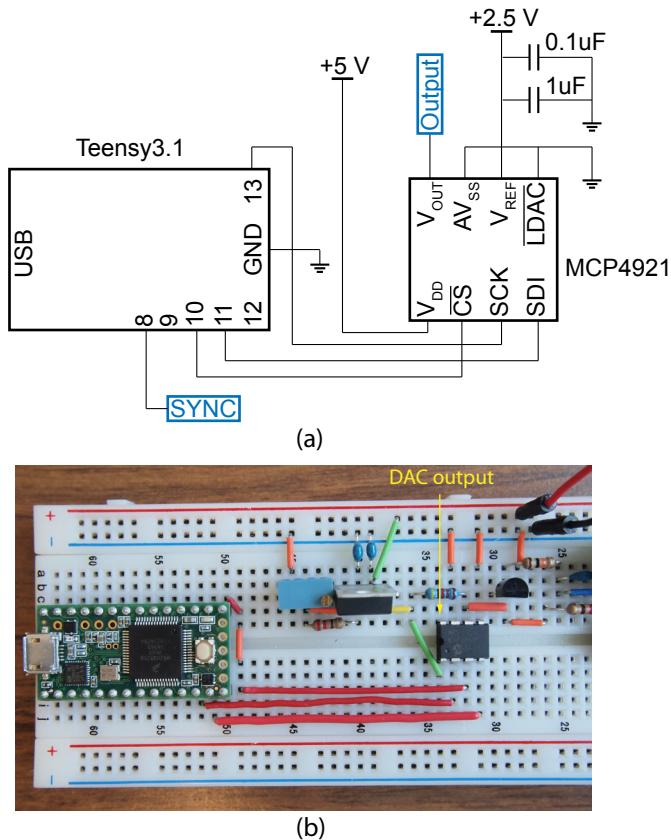

Figure 13: Schematic of the connection between the Teensy 3.1 and the MCP4921.
1. Using Fig. 13-a as a reference, connect the Teensy to the MCP4921 DAC. Connect the MCP4921's VDD pin to the output of the LM317 regulator (5 V). Connect the MCP4921's VREF pin to the LT1009 reference's output (2.5 V). Connect both AVSS and LDAC of the MCP4921 to ground. A 0.1  $\mu$ F and a 1  $\mu$ F capacitor could be used at VREF to minimize noise at the reference. It is very important to keep your circuit (ICs, resistors, capacitors, wires, etc) organized. Use as short of a wire as possible between two connection points. Refer to Fig. 13-b for an example layout.